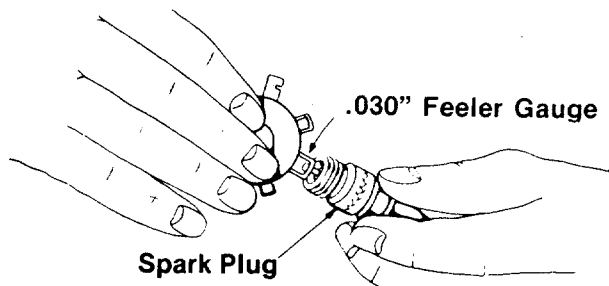

FIGURE 25.
1. Remove the spark plug each time you change the oil and inspect it. See figure 25.